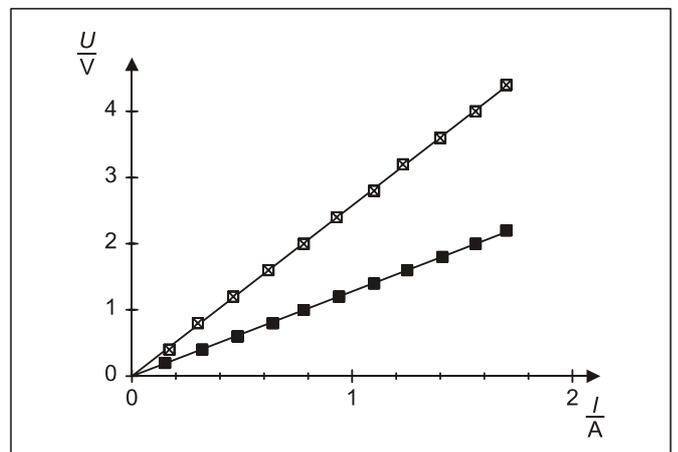

Fig. 3: Relation between the voltage  $U$  and the current  $I$  for constantan wires with the lengths  $\ell = 1 \text{ m}$  (■) and  $2 \text{ m}$  (⊠)
Table 5: resistance  $R$  of a 0.7 mm thick constantan wire as a function of the length  $\ell$ , determined from the slopes of the measured curves in Fig. 3
As is seen from Fig. 3 and Table 5, respectively, the resistance is doubled if the wire length is doubled. This result, too, is in agreement with Equation (II).